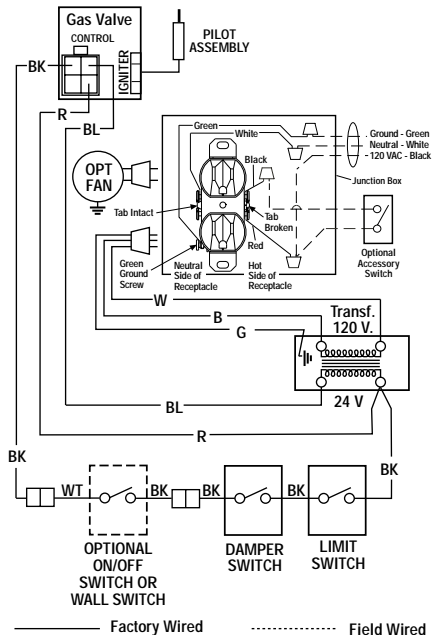

Figure 15
B. Electronic Wiring – The electronic appliance must be connected to the main power supply. To install, route a 3-wire 120V 60Hz power supply to the appliance junction box and ground. Locate and install a low voltage (24V) wall switch (not supplied) in the desired location. Connect the low voltage wire to this switch (see *Figure 15 on Page 8*).
1. Route a 3-wire 120V 60Hz power supply line to the appliance junction box wires and ground (Figures 15).